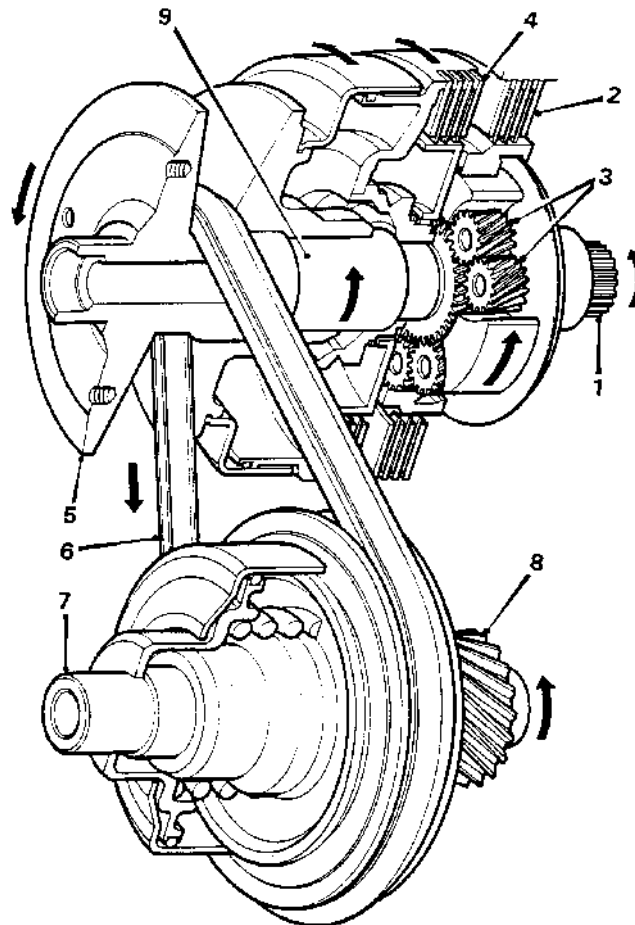

Figure 20
Under these conditions, the epicyclic set of gears, the planetary gears (3), the sun gear and the outer ring gear are held by the forward clutch (4) which is engaged (see Figure 20).